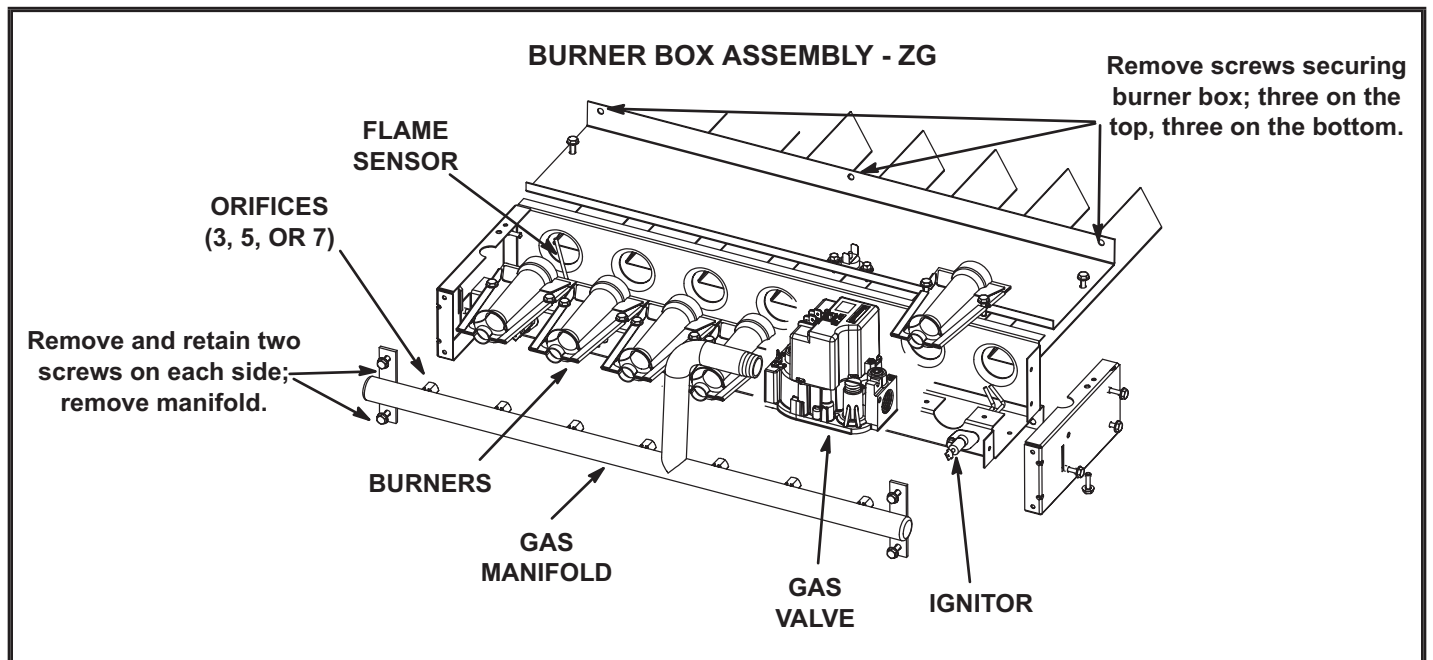
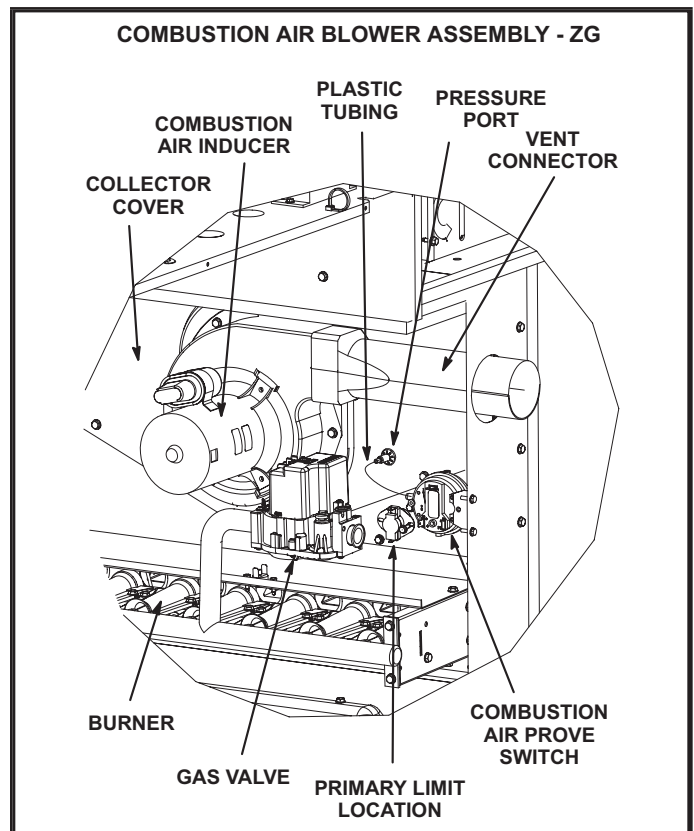

FIGURE 10
FIGURE 11
- 3 - Remove the gas manifold. See FIGURE 10.
- 4 - Remove the burner box assembly. Retain six screws holding the assembly in place. See FIGURE 10.
- 5 - Disconnect wiring to the ignitor, flame sensor, combustion air prove switch, flame roll-out switch and primary limit. See FIGURE 10 and FIGURE 11.
- 6 - Remove the primary limit. See FIGURE 11.
- 7 - Remove the vent connector from the combustion air inducer. See FIGURE 11.
- 8 - Remove the combustion air inducer. See FIGURE 11.